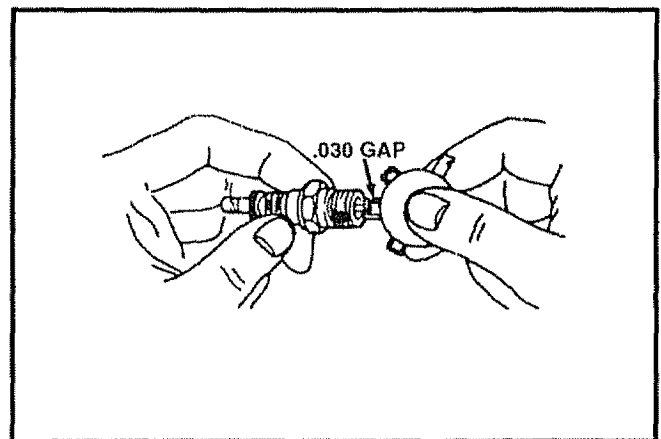

FIG. 40
- Be sure the spark plug is clean and free of foreign material. Check electrodes gap (See Fig. 40) with a wire feeler gauge and reset the gap to .030 inch if necessary.